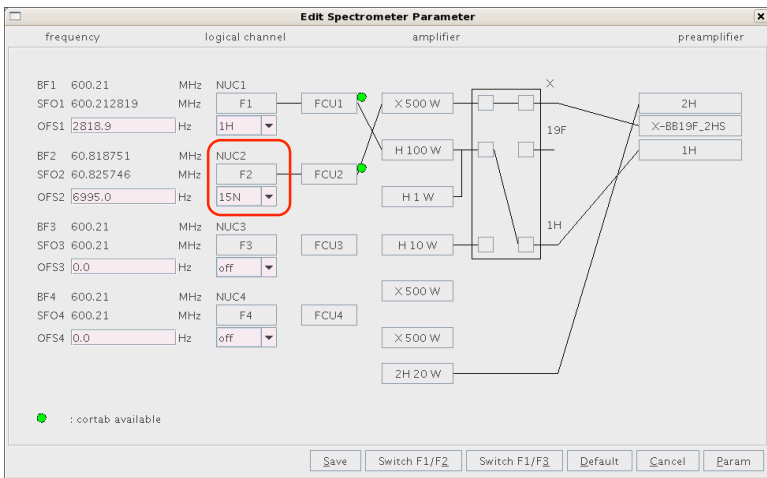

Figure 7: Routing for ^{15}N tuning on channel 2 as required on 601.
- Make sure the ^{15}N nucleus is selected in channel 2 as shown in Figure 7.